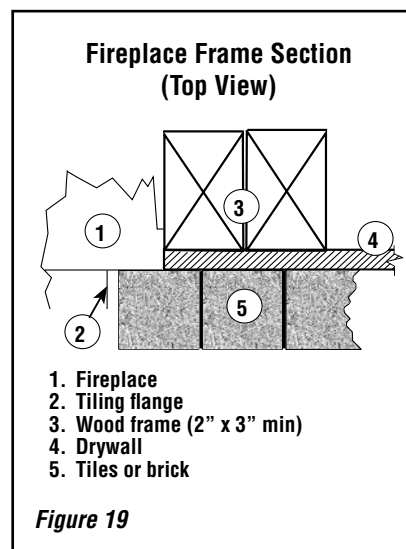

Figure 19
1. Combustible material must be installed flush with the fireplace. It may not project in front of and on the fireplace (i.e. the steel facade of the fireplace) (Figure 19).
2. Non-combustible materials such as brick, stone or ceramic tile may project in front of and onto the fireplace facing up to the tiling flange (Figure 19).